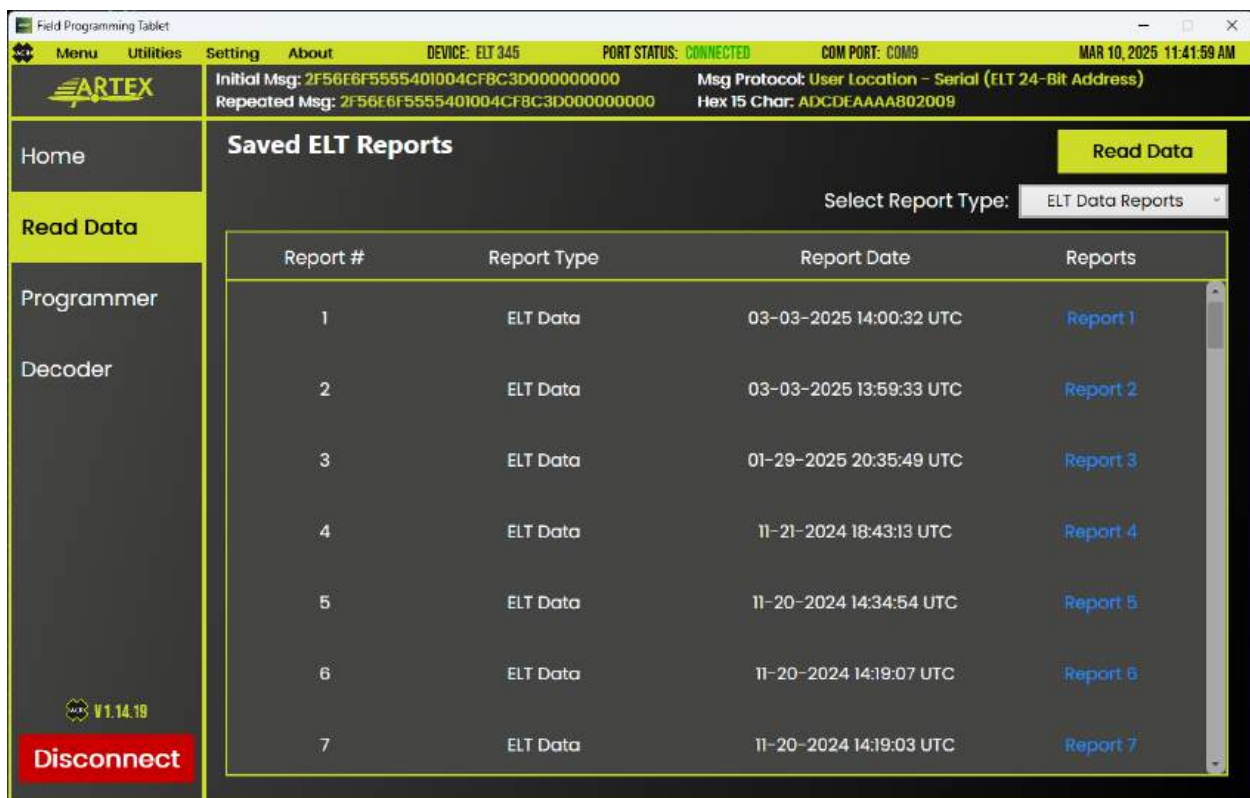

Figure 16 - FPT Read Data Screen
4. To view all currently saved ELT reports, select the **Saved Reports** button located at the top right of the Read ELT Data page. This displays a new page (Figure 16).